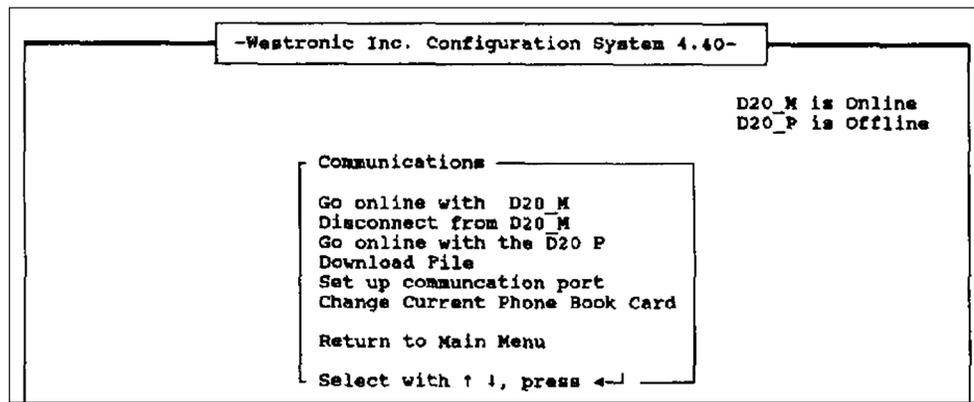

Figure 28. The *Communications* screen.
STEP 23. Using the arrow keys, select the **Download File** option and press the <ENTER> key. The NVRAM file will be downloaded from the computer to the CPM. The *Communications* screen will open. See Figure 28.